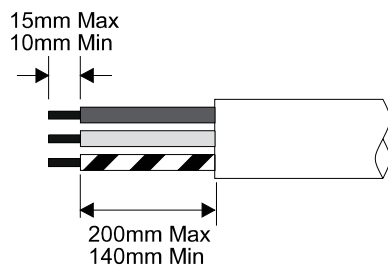

Figure 5. - Mains Cable Preparation
1. Prepare the cable for connection by stripping back the insulation as shown in Figure 5, and pass it through the cable gland.